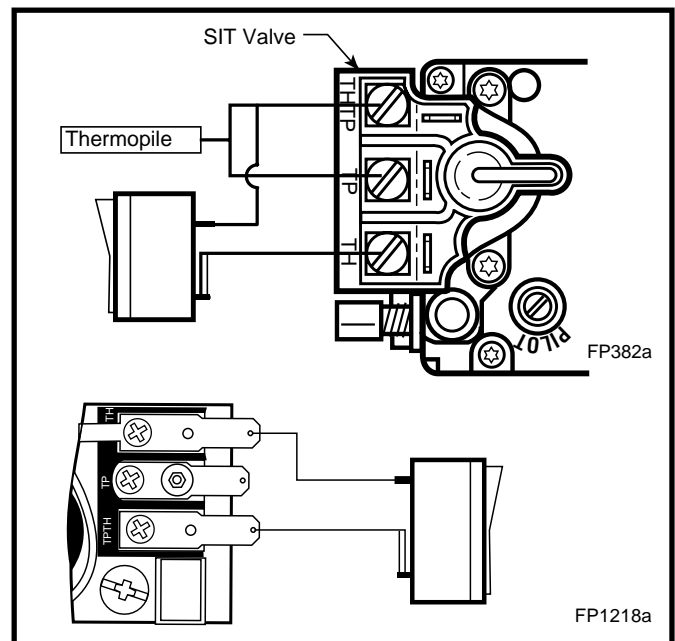

Fig. 5 On/Off switch or millivolt thermostat.
3. Attach wiring under the clips on the rear casing (Fig. 6) and install wiring through the rear opening of the fireplace before connecting to the valve as shown in Figure 5.